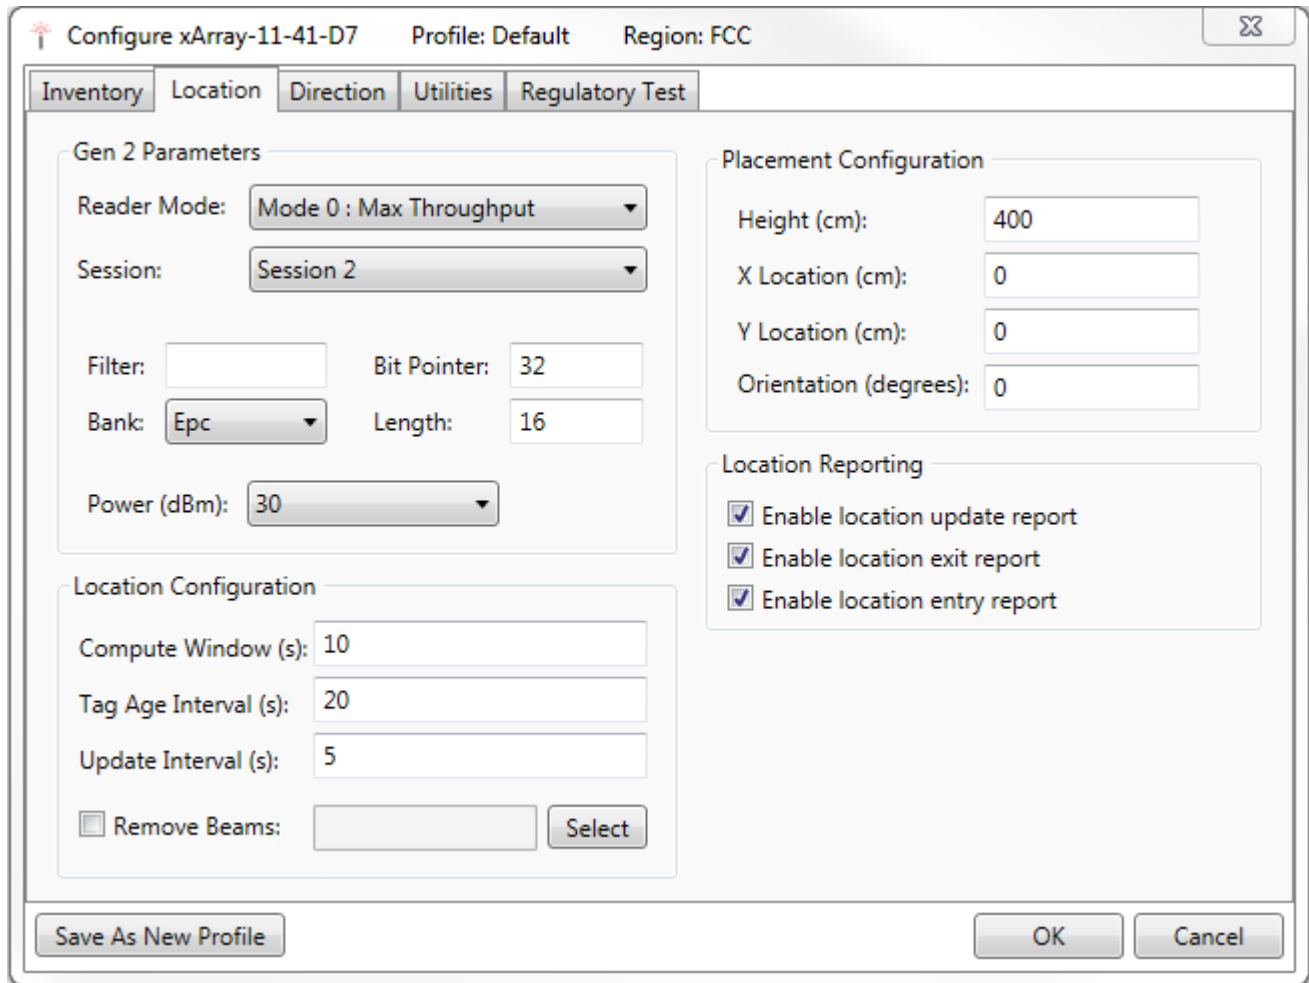

Figure 6.7 Location Configure Tab
1. To configure the xArray to maximize the number of tag reads, click the **Location** tab on the **Configure xArray** page, shown in Figure 6.7.